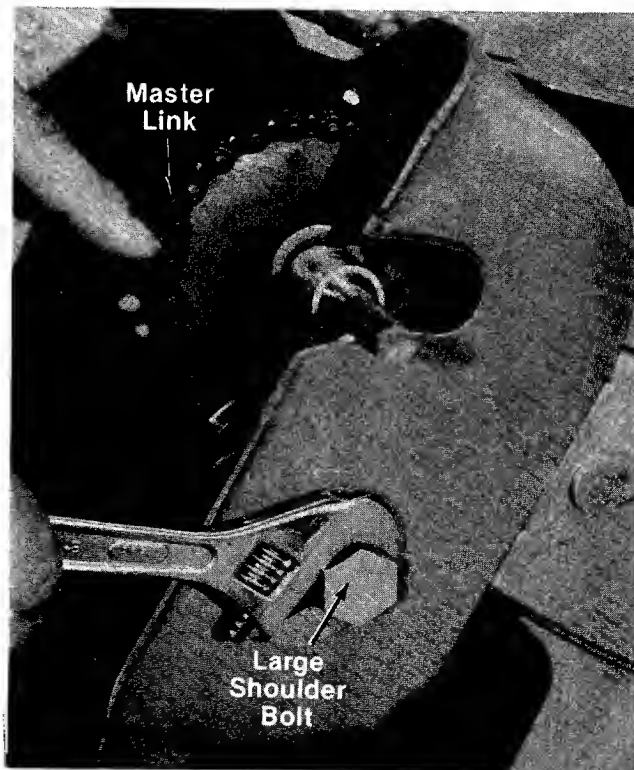

FIGURE 29.
10. Remove the large shoulder bolt and chain master link. See figure 29.